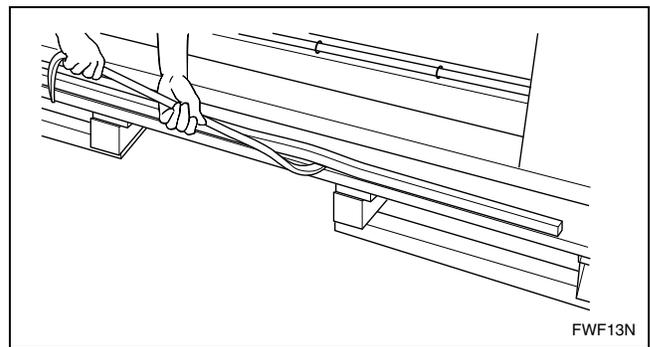

Figure 4
- Use a pry bar to remove the wood stops from the skid. Refer to *Figure 4*.